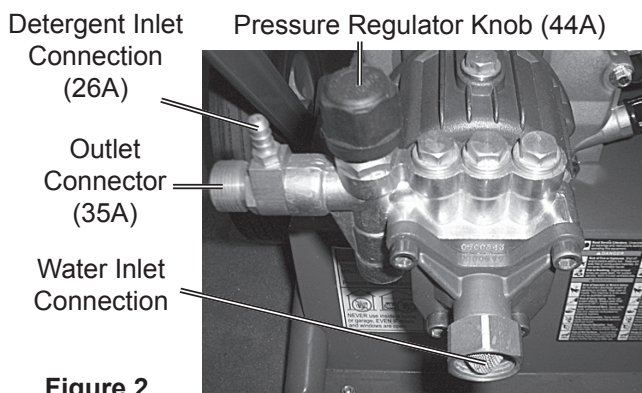

Figure 2
4. Attach the Hose (18) to the Outlet Connector (35A) on the unit (See Figure 2).
5. Pull the Collar at the end of the hose back and attach the Gun (19) to the hose.
6. Screw the Wand (20) onto the Gun (19) and secure with the grommet.
7. Choose the right Nozzle (5) for the job. Pull back the quick connect collar and push the Nozzle onto the end of the Wand. Make sure the quick connect collar locks the Nozzle in place.